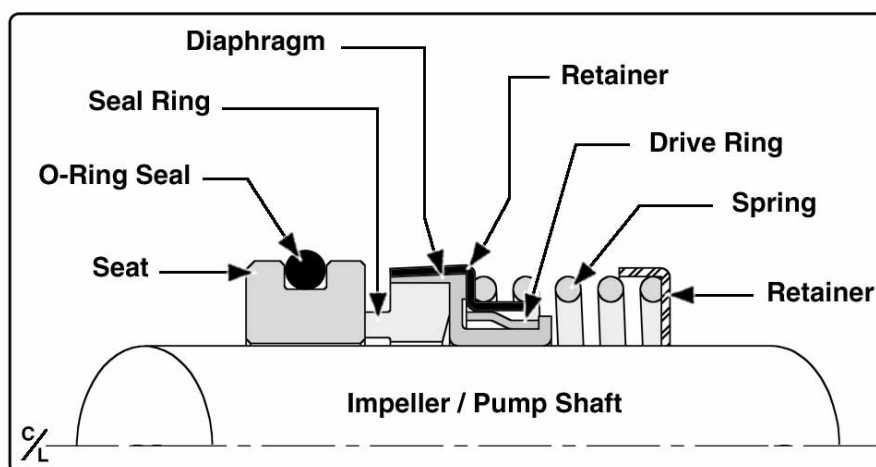

Figure 6b-1: Typical Mechanical Seal
IF WATER LEAKAGE FROM THE DRAIN HOLE IN THE VOLUTE IS NOTICED, THE IMPELLER MUST BE REMOVED AND THE MECHANICAL SEAL MUST BE INSPECTED. (SEE FIGURE 6B-1: "TYPICAL MECHANICAL SEAL.")
(See Figure 6b-1: “Typical Mechanical Seal” on page 85.)
8. Without touching the face of the seal ring, slide the ring, diaphragm, and retainer onto the shaft with the pusher tube. (See Figure 6b-1: "Typical Mechanical Seal" on page 85.)